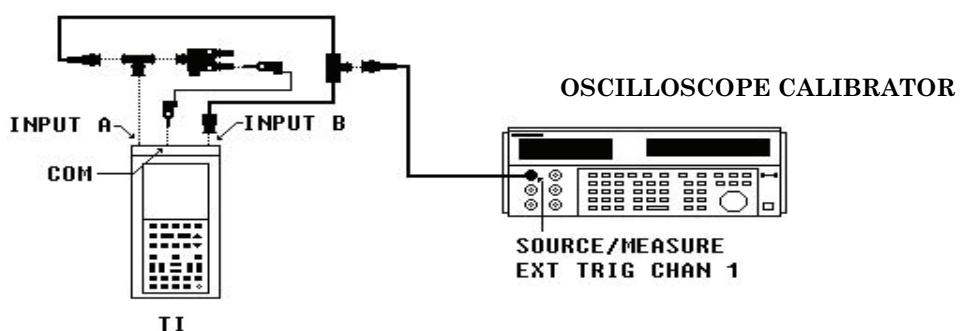

Figure 10. Attenuation and gain.
(11) Toggle **▲** or **▼** to display/highlight (**▼ or ▲ CAL 5**).
(12) Press (**F5**) **READY**, then wait till display/highlight **READY** is not highlighted.
(13) Connect equipment as shown in figure 10 below: